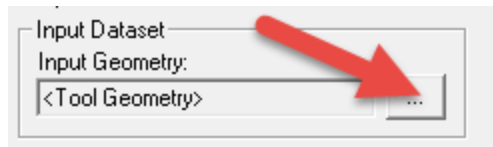

Figure 3: Invoking IO Manager to set the input seed point(s)
- The Toe Extractor input and output parameters are set via the PCT Input/Output Manager (IOM) accessed by the ellipses beside any input or output in the PCT (Figure 3).